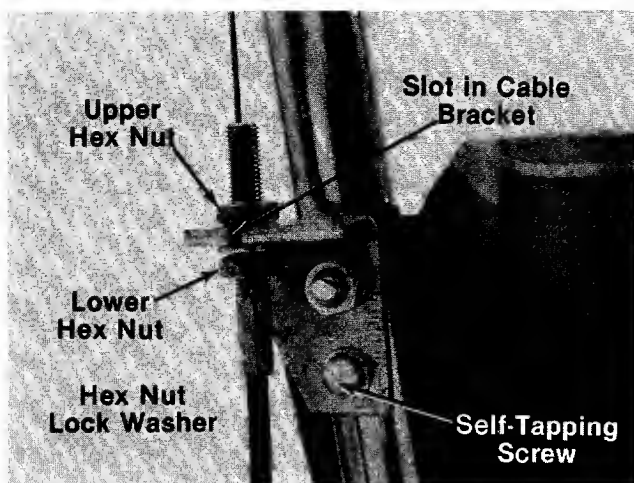

FIGURE 4.
2. Slip the cable into the slot in the cable bracket, which is located behind the left hand handle. See figure 4. Slide the threaded end of the cable casing up through the bracket. Rethread the hex nut onto the end of the cable casing a few turns. See figure 4.
5. Remove the self-tapping screw from the cable bracket. Remove the hex nut and lock washer from the carriage bolt, then remove the cable bracket. See figure 4.